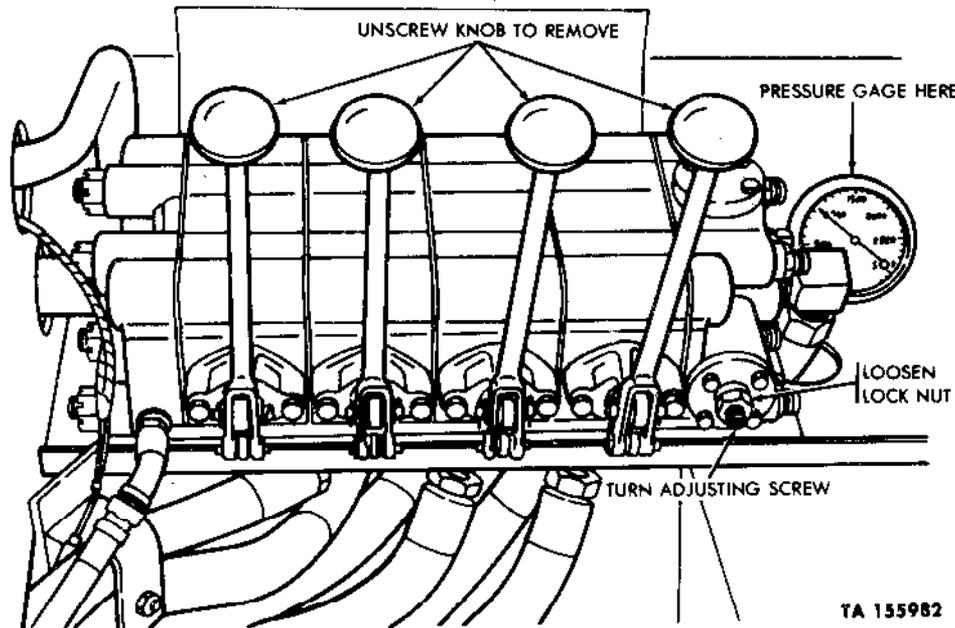

Figure 2-252. Relief valve adjustment.
(1) Remove pipe plug from the control valve bank, and install hydraulic pressure gage (2, fig. 2-4) as shown in figure 2-252.
(2) Lower hoist cable to the ground to prevent fouling of the hoist cable block with the boom sheaves while testing the relief valve setting.
(3) With boom fully extended, move control lever to the extended position, and hold it there.
(4) While holding control lever in the extended position, observe pressure indicated on hydraulic pressure gage.
(5) The pressure indicated on gage is pressure at which the relief valve is opening. If gage indicates an incorrect relief valve setting (more or less than 1,210 to 1,215 psi) adjust relief valve as described in c below.
(1) Loosen locknut on adjusting screw (figure 2-252).
(2) Turn adjusting screw as required to obtain correct relief valve setting of 1,210 to 1,215 psi.